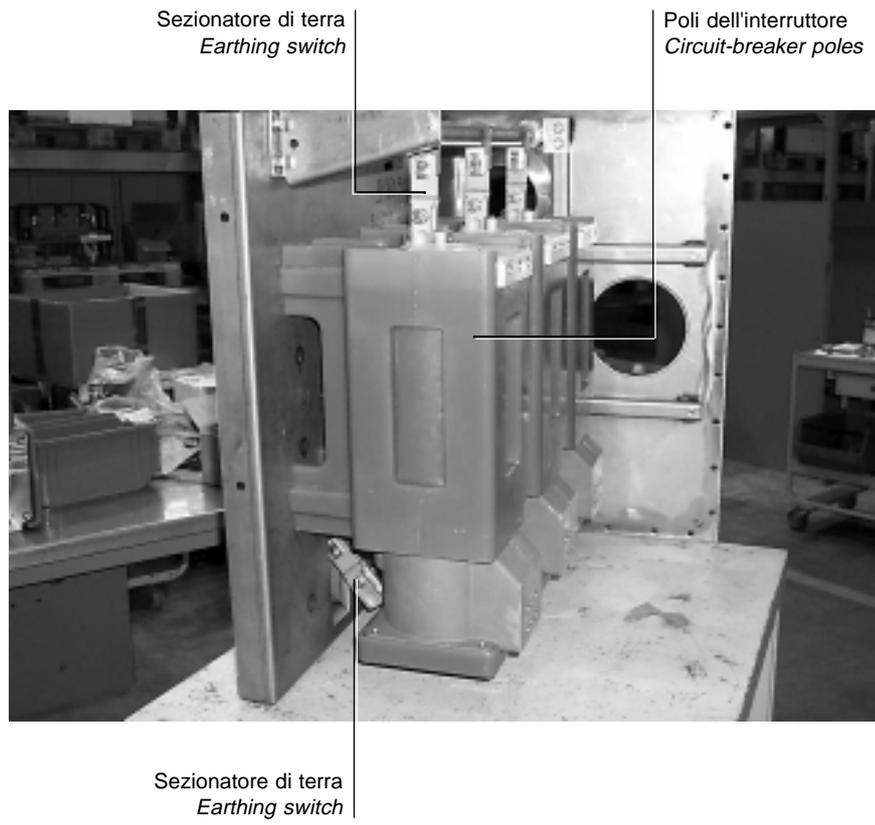

Fig.10
- Sezionatore di terra (ES) fig. 10 con potere di chiusura per la messa a terra ed in c.to c.to dei cavi, è situato nella cella interruttore, ed è visibile dall'oblò di ispezione.
- Interruttore (CB) della serie HD4 fig. 10: impiega gas esafluoruro di zolfo (SF6) separato dal restante volume del gas del cubicolo.
- Earthing switch (ES) fig. 10 with making capacity for earthing and short-circuiting the cables. It is located in the circuit-breaker compartment and is visible through the inspection window.
- Circuit-breakers (CB) of the HD4 series fig. 10: use sulphur hexafluoride (SF6), separated from the remaining volume of gas in the cubicle. The circuit-breaker pole chambers contain SF6 insulating gas. They are intercommunicating since they are connected by means of a small tube. Control and any filling can be carried out from the filling valve (2) - fig. 11, of which there is only one for the three poles, accessible from the instrument compartment where the pressure switch and the manometer are also housed.